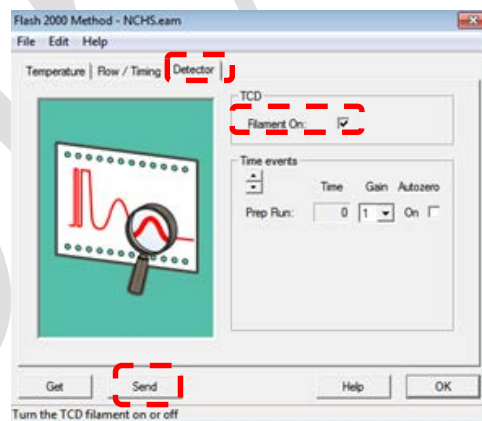

Fig.8 Turning on the detector
3.1.12 Click , select the option **detector**, in the section **TCD**, select **filament on** and click “send” (fig.8).